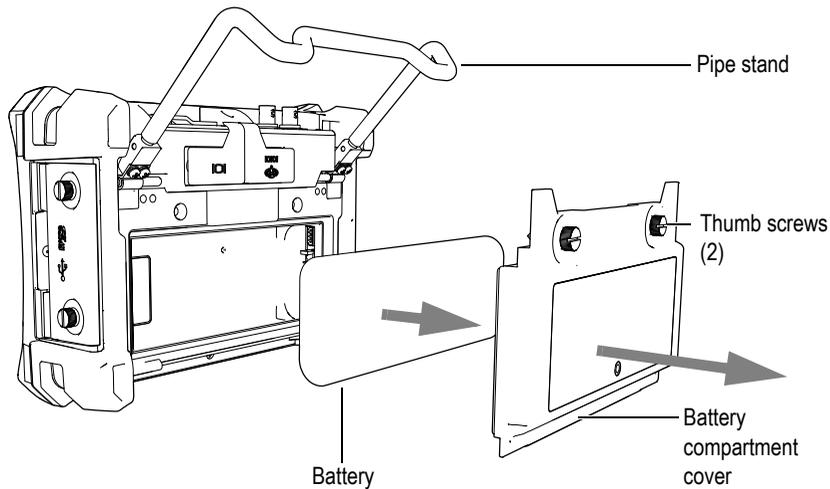

Figure 12-1 Removing the lithium-ion battery
2. Fully unfold the pipe stand at the back of the instrument (see Figure 12-1 on page 298).